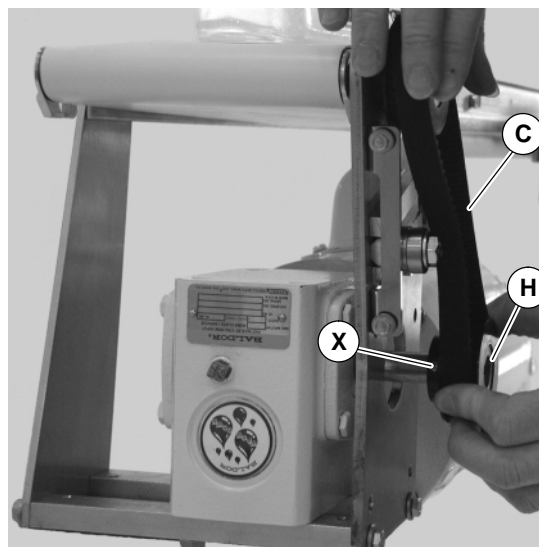

Figure 26
3. Loosen drive pulley set screws (X of Figure 26). Remove drive pulley (H) and timing belt (C).